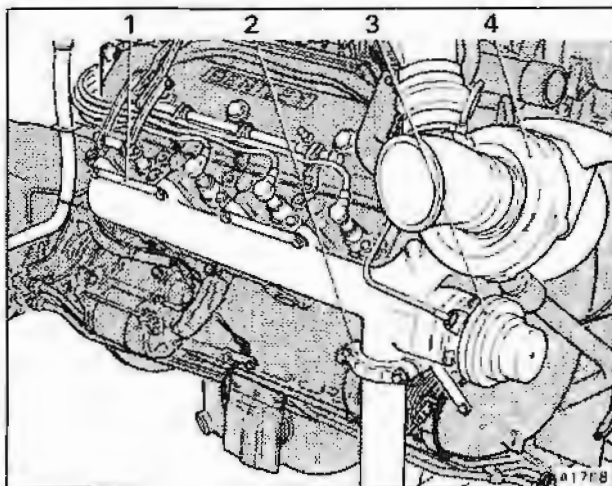

Fig. Q3-2 'A' bank exhaust manifold
Exhaust manifolds – To remove (see fig. Q3-2)
5. Remove the wastegate assembly from 'A' bank manifold (see fig. Q3-2). Discard the 'O' ring.